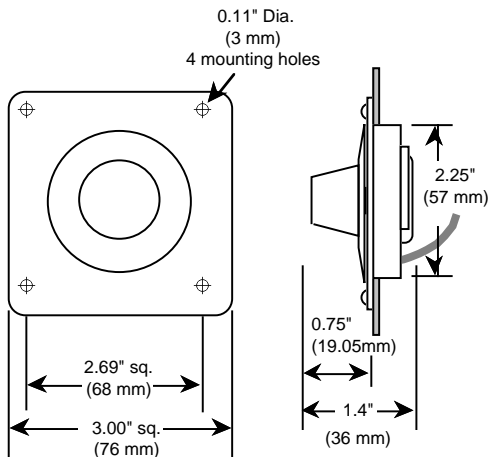

Figure 3 - Setpot Dimensions
1. Drill a 2.25" (57 mm) diameter hole (or use a 2.25", or 2.375" punch) at desired remote setpot assembly location. See Figure 3.